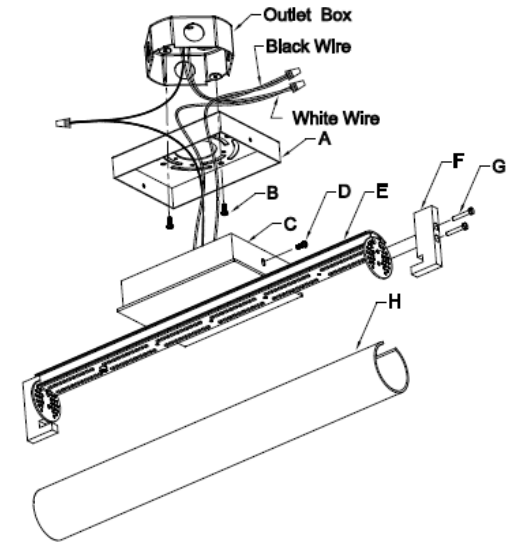

Fig.2
CONNECTING THE WIRES (FIG. 2)
4. At this point, connect the electrical wires as shown in Fig. 2, making sure that all wire connectors are secured. If your outlet has a ground wire (green or bare copper), connect the fixture's ground wire to it. Otherwise, connect the fixture ground wire directly to the mounting plate (A) using the green screw provided. After wires are connected, tuck them carefully inside the junction box.
5. Place the fixture's back plate (C) over the mounting plate (A) and secure with screws (D) .